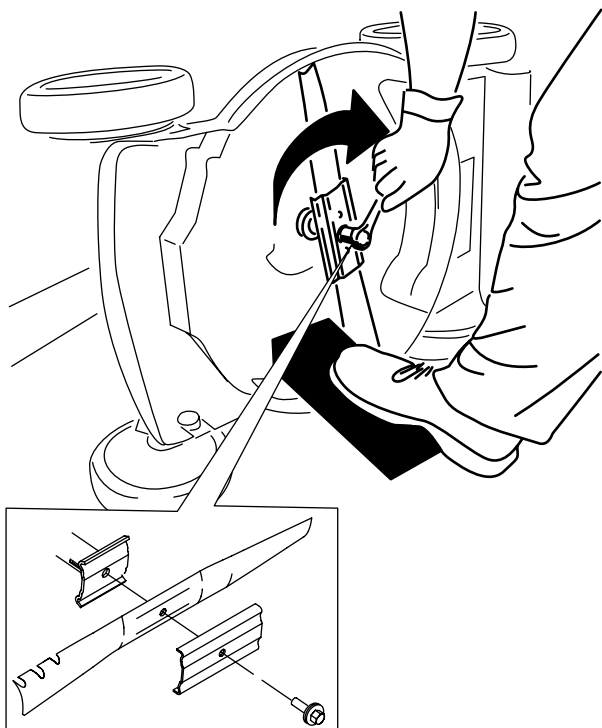

Figure 23
5. Install the new blade and all mounting hardware (Figure 23).